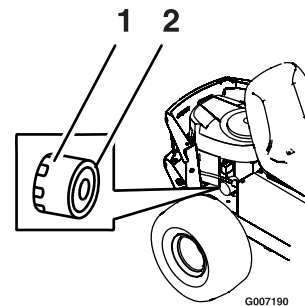

Figure 28
8. Remove the old filter and wipe off the mounting pad (Figure 28).